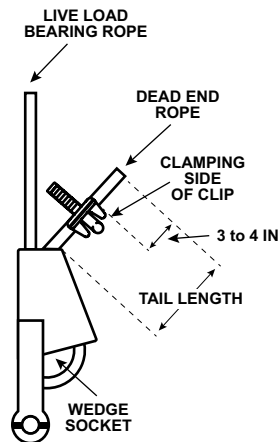

FIGURE 1
- Dead end wire rope tail length should be at least 6 rope diameters, but not less than 6 inches beyond the wedge socket. See Figure 1.
- Apply U-bolt and first saddle on dead end rope and the second saddle on live end rope. Install nuts. See Figures 1 & 2.
- Position the dual saddle clip so that 3 to 4 inches of dead end rope remain beyond the clip. See Figures 1 & 2.